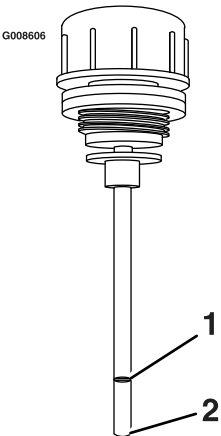

Figure 69
- 7. Place the dipstick into the filler neck, remove it, and check the fluid level (Figure 69).